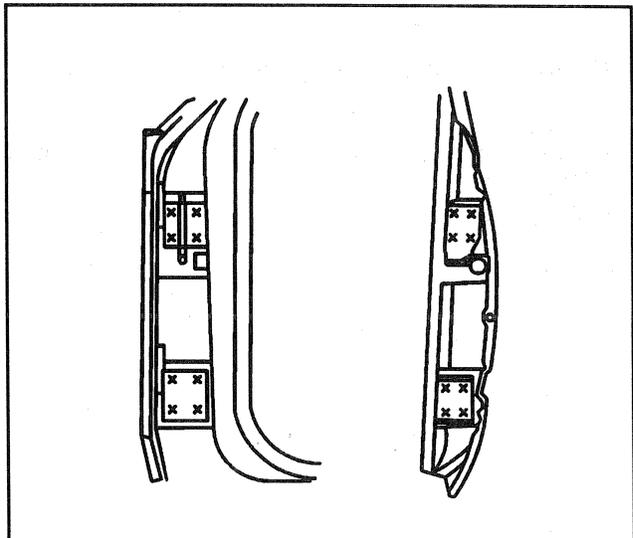

Figure 38—Spot Weld Locations
↔ Remove or Disconnect (Figures 38 and 39)
- B. Center punch each of the weld marks on the original hinge (Figure 38). It is critical to punch the center of the weld so that all of the weld is removed during drilling.
→← Install or Connect (Figures 38 and 39)